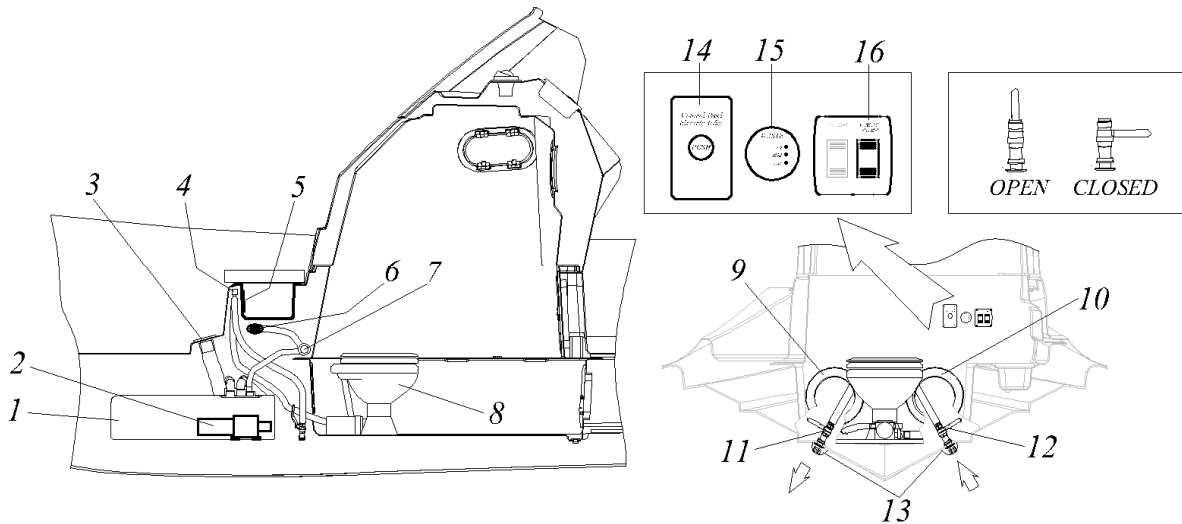

Fig.10
Your boat has an electric toilet with a wastewater tank (Fig.10)
Before using the toilet, please open hatch (10, Fig.10) inside the cabin, open "faucet 1" (12) for water intake. The "faucet 2" (11) must be closed. For wash off the toilet, please use the toilet control panel (14) press the button "PUSH". A built-in pump will remove waste into the wastewater tank and flush the toilet with seawater. Although the built-in pump has a chopper, do not throw any objects into the toilet. This can clog the toilet.